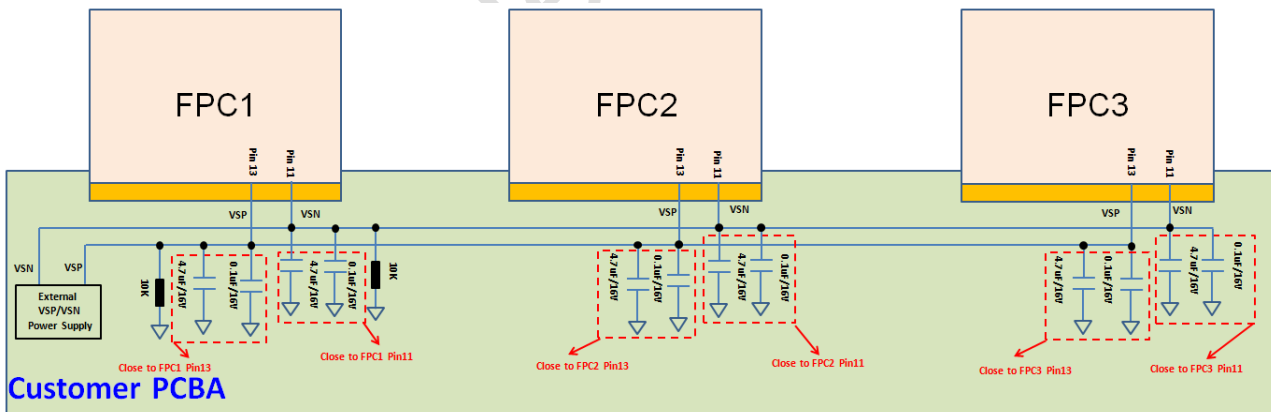

Figure 10: Cascade design with external Power Supply(VSP/VSN)
- (3) The VSP/VSN voltages are provided by external power (Figure 10) ;
- (4) The capacitors of VSP/VSN need to be as close to FPC1 as possible (Figure 10) ;